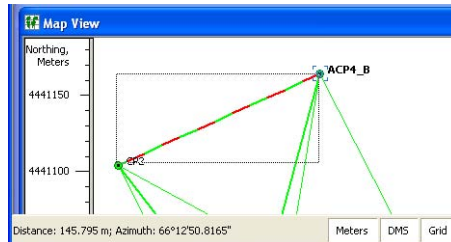

Figure 4-28. Show Azimuth
- Show azimuth – enable to display an azimuth (from the start point to the end point of the rectangle) in the Status Bar when the user drags the rectangle on the Map View (Figure 4-28).